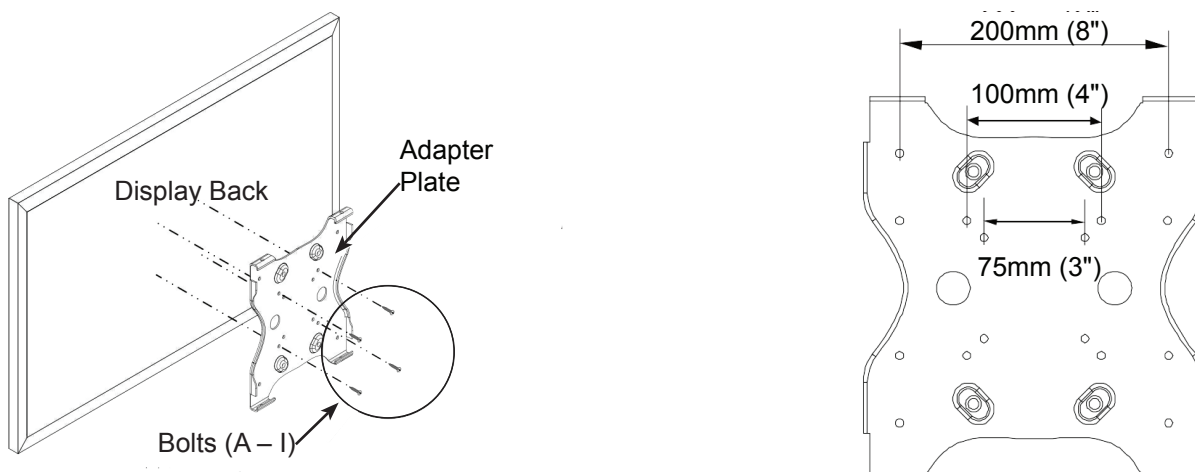
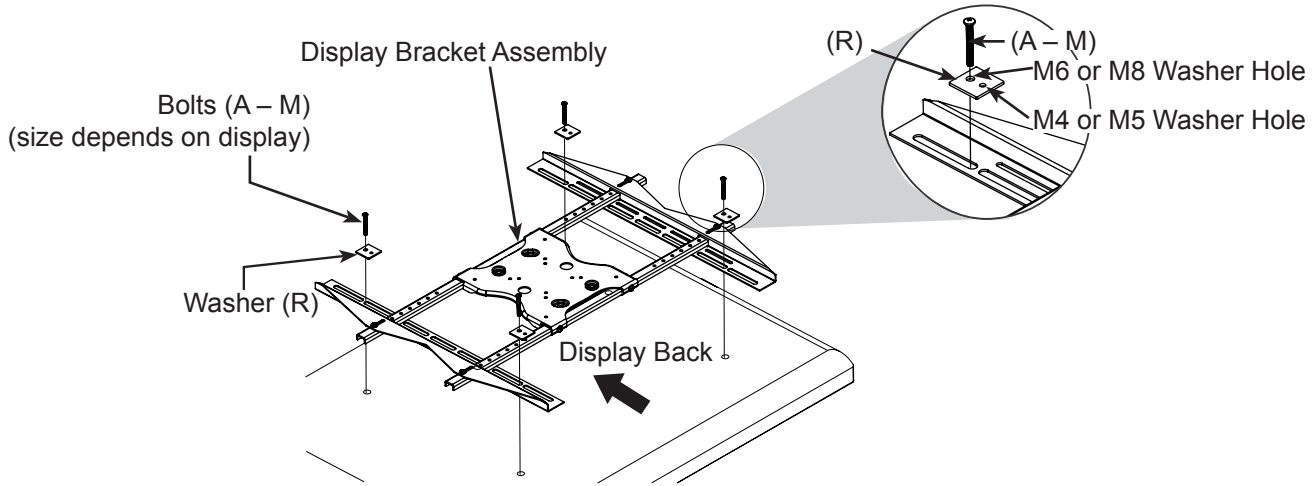
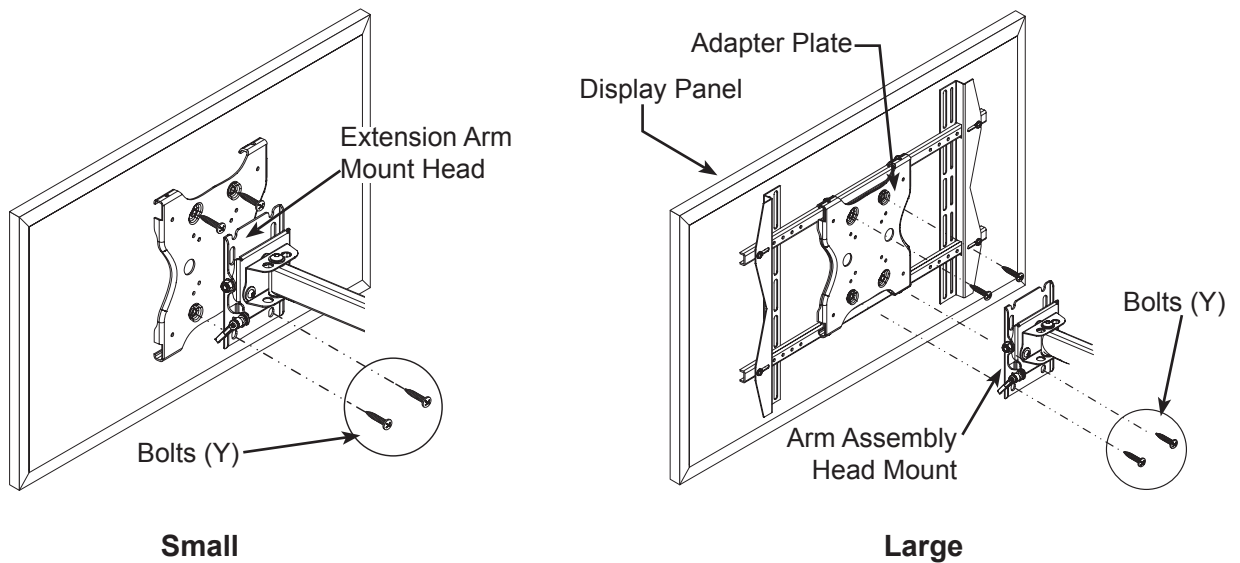

Figure 3
Figure 4
Figure 5
1. Insert two Bolts (Y) into top two holes of Adapter Plate. Leave approximately 1/4" of exposed thread (do not fully tighten).
3. Once in position, attach the bottom two Bolts (Y) to secure the Adapter Plate to the Arm Assembly Head Mount using the provided Allen Key to tighten down all Bolts (Figure 3 and Figure 5 "Small").
3. Once in position, attach the bottom two Bolts (Y) and secure the Adapter Plate to the Arm Assembly Head Mount using the provided Allen Key to tighten down all Bolts (Y) (Figure 4 and Figure 5 "Large").